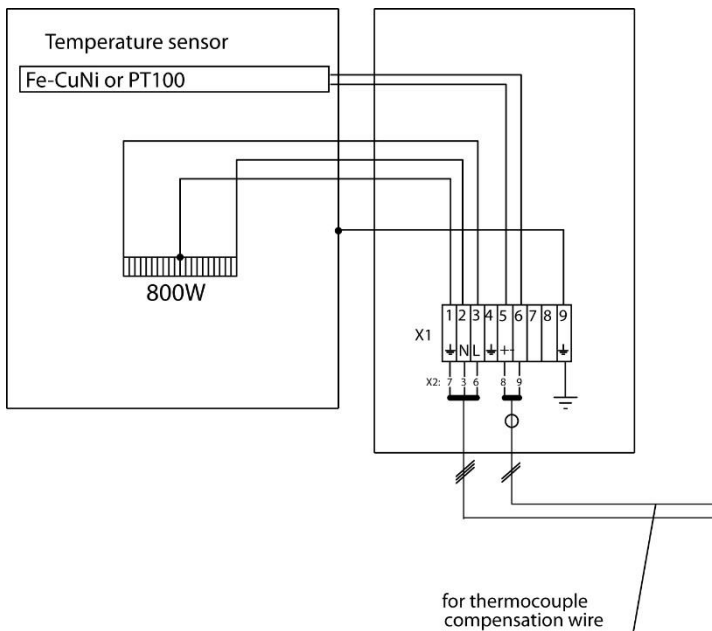

Figure 10 Electrical connection of external temperature controller e.g. 70304G
- Remove the lid of the connection box. The electrical connection layout is also located in the lid (Fig 10).
In case the temperature regulator **70304G** is attached as separate unit, the probe has additionally to be connected with the regulator, according to figure 10 and the following description: